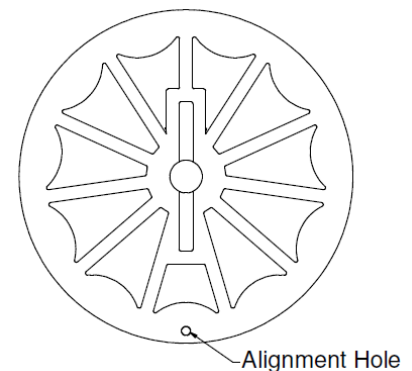

Fig. 5
- c) Recheck the location of the two sprockets to ensure the drive lugs are aligned with each other. Alignment can also be checked with the alignment holes on the sprocket; reference Fig. 5.